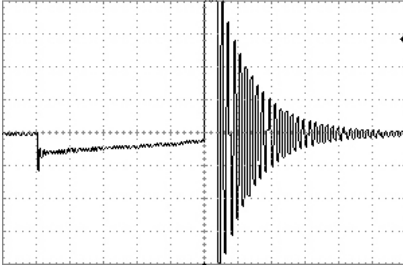

Fig.8
- ♦ **Dmp Off** (no damping) (see Fig.8);